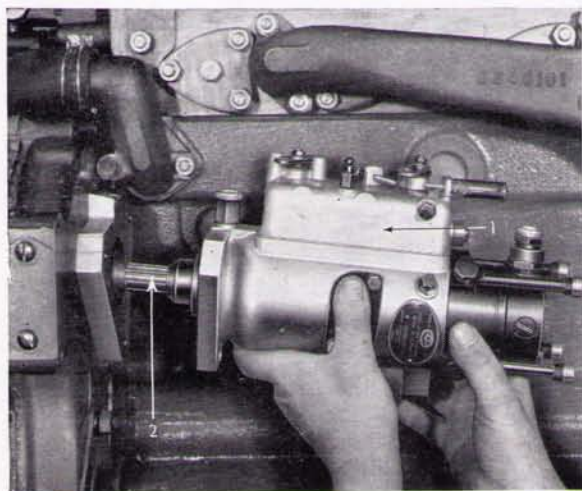

Fig. M.13.
4. Release the high pressure and low pressure fuel pipes and remove the fuel injection pump and quill shaft. Fig. M.13.